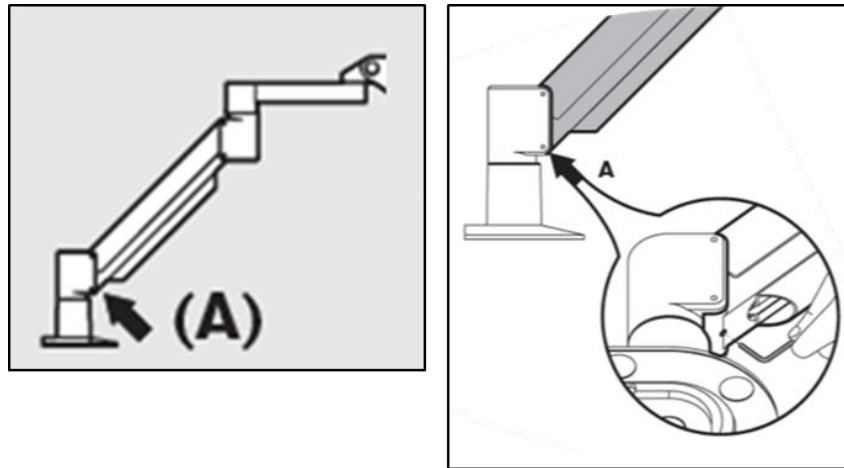

Figure 4-5. Loosen Counterbalance Set Screw A
- If the arm drifts downward, lift the arm to the top of its range and loosen Counterbalance Set Screw A by turning the screw at least a ½ turn. Use a 3/32 Allen Wrench. See Figure 4-5.
- Raise the arm to the highest position and tighten Counterbalance Set Screw A until contact is made, then tighten $\frac{1}{2}$ to $\frac{3}{4}$ max revolutions. See Figure 4-5.